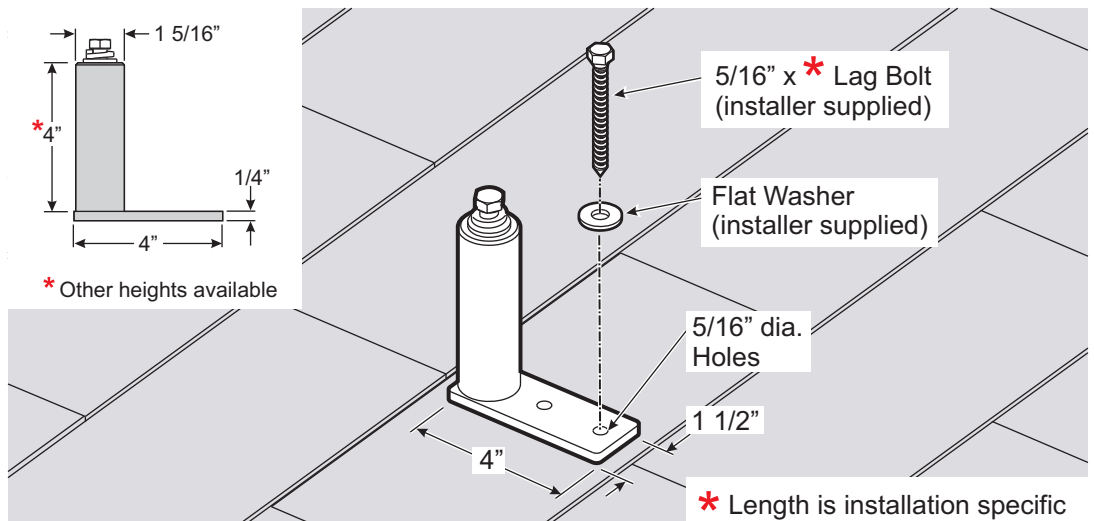

Figure 2-1: Securing the Offset Power Post to Roof
- A. Drive the lag bolts into the rafter at both hole locations of the Offset Power Post base plate and tighten securely. (See Figure 2-1)